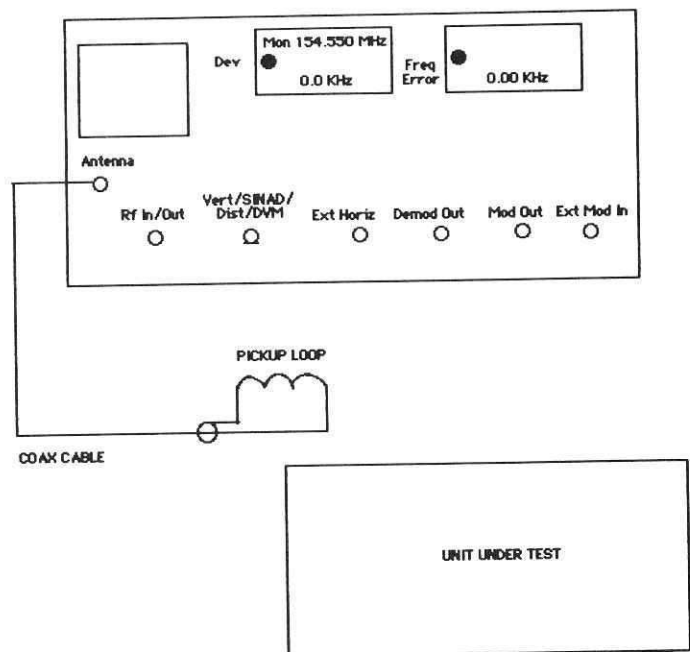

FIGURE 5.5—FREQUENCY ADJUSTMENT SETUP
1. Connect the service monitor to the receiver under test, as shown in figure 5.5.